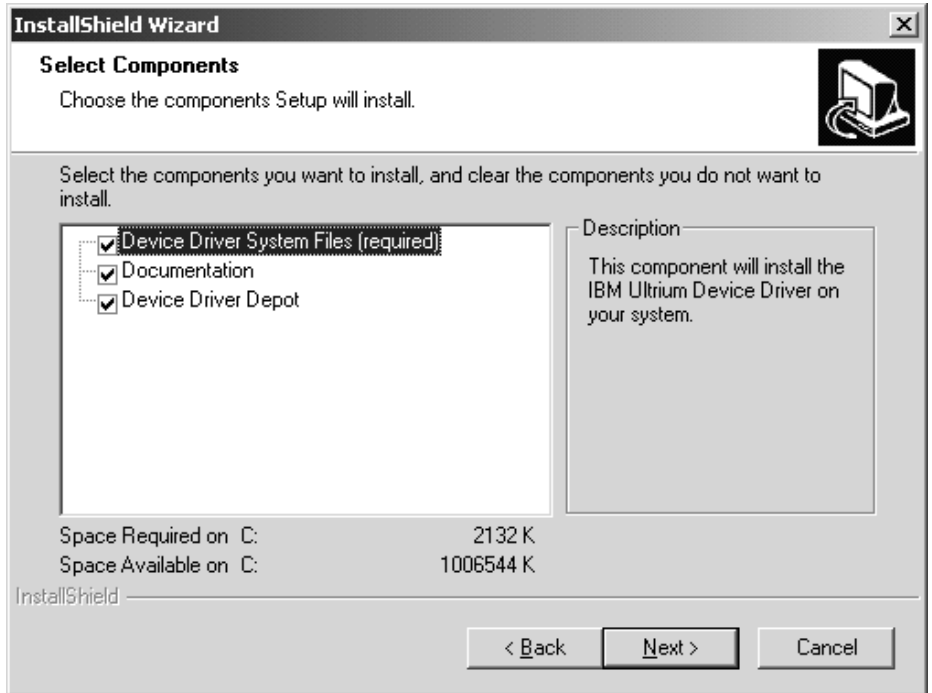

Figure 22. Select Components Menu
- c. If you select **custom** installation, the program will allow you to select the components to install. See Figure 22.